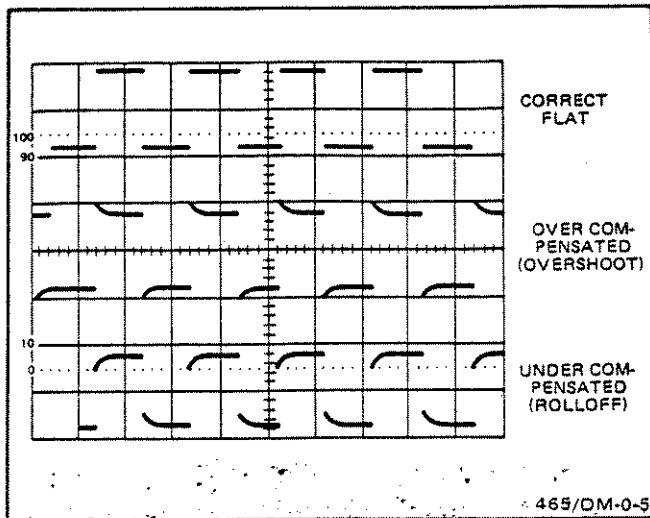

Figure 11. Probe compensation.
3. Check the waveform presentation for overshoot and rolloff. Readjust, if necessary, the probe compensation for flat tops on the waveforms (see Figure 11). Refer to the appropriate probe manual for compensation adjustment instructions.